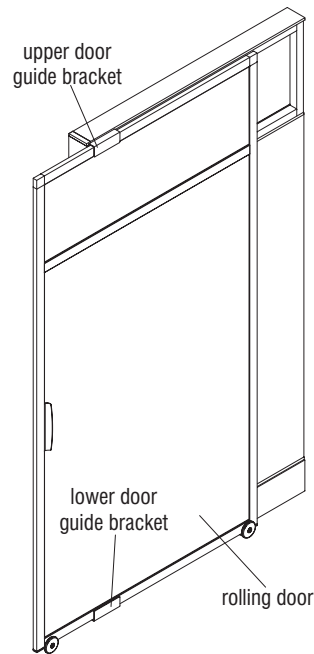

Figure 5
11. Position the rolling door with the wheels to the aisle side. Tip the top of the rolling door out and set the center, bottom of the door onto the lower door guide bracket with one wheel positioned on each side of the lower guide bracket as illustrated. (Figure 5).
12. Adjust rolling door vertically, then lower the upper door guide bracket to capture and hold the door in place. Do not secure at this time (Figure 5).